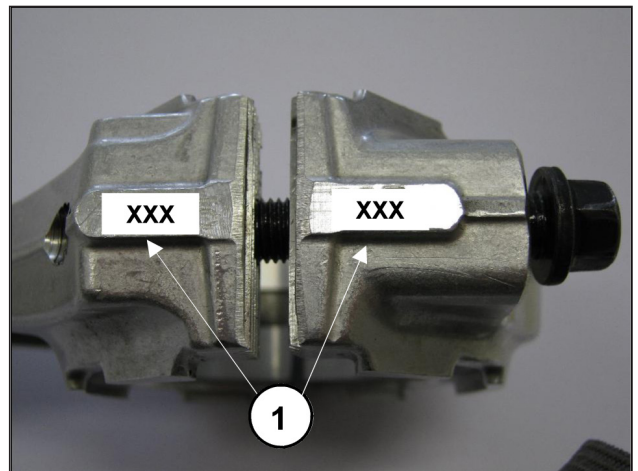

Fig. 9
- Couple the con-rod caps to their shanks, referring to the numbering (Fig. 9, pos. ①).